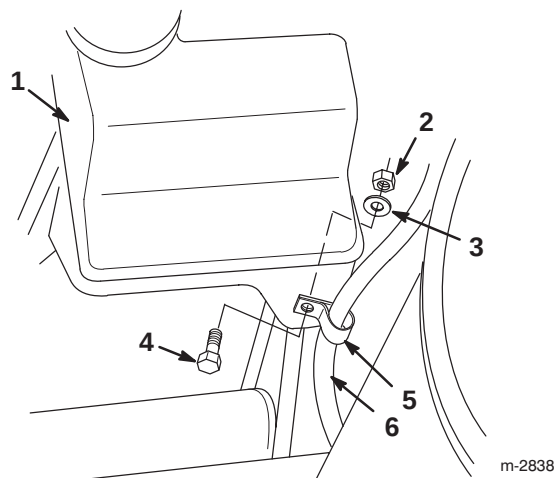

Figure 4
4. Remove the hex-head bolt, the flat washer, and the locknut, and remove the R-clamp from the starter wires (Fig. 4).
- Install the R-clamp onto the new starter wires (Fig. 4).
- Fasten the R-clamp and the attached wires to the fuel tank tab with the hex-head bolt, the flat washer, and the locknut (Fig. 4).